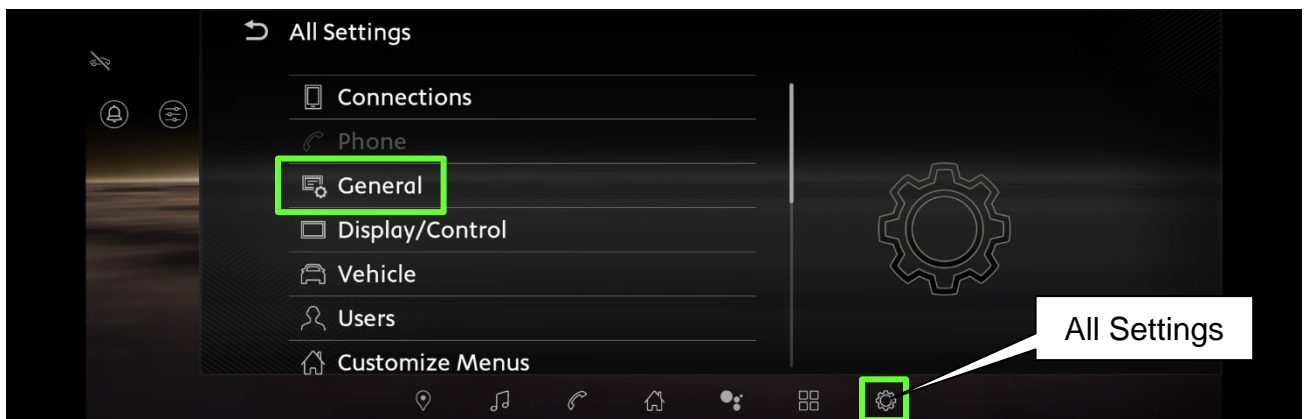

Figure 6
9. Select the **All Settings** icon (Figure 6).